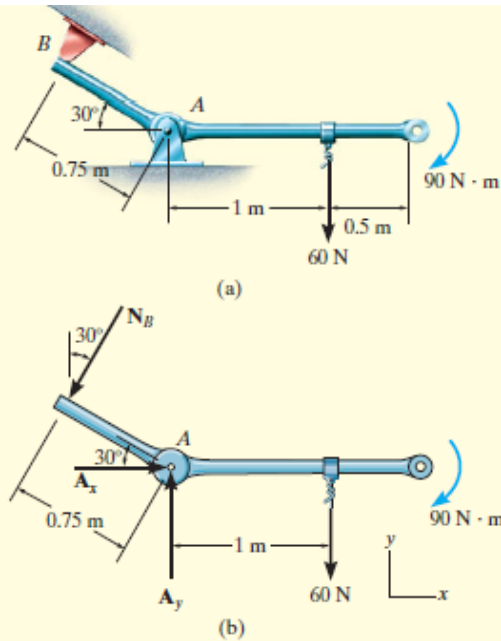

Fig. 5-14
**Free-Body Diagram.** As shown in Fig. 5-14*b*, the reaction  $N_B$  is perpendicular to the member at  $B$ . Also, horizontal and vertical components of reaction are represented at  $A$ .